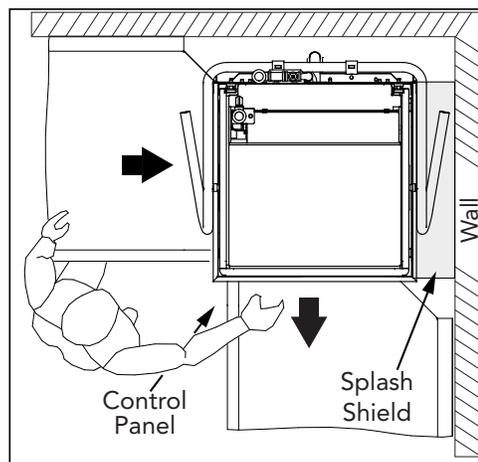

Fig. 1
**KIT PARTS:** (1) SHIELD, CORNER SPLASH, P/N 337955, COMPOUND SEALING, P/N 104889, (2) SCREWS, 10-32 X 1/2" TRUSS HEAD, P/N 100097, (2) WASHER, FLAT, 10-32, P/N 107033, NUT, GRIP, 10-32 W/NYLON INSERT, P/N 107966
1. The splash shield is installed on the right-hand side of the dishwasher. (Fig. 1).